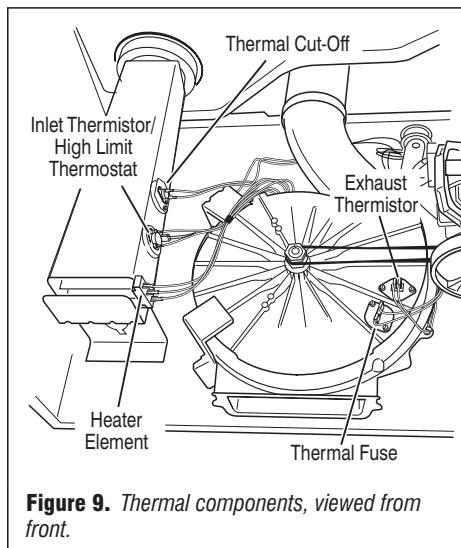

Figure 9. Thermal components, viewed from front.
Locate the components using figure 2, page 4; and figure 9, below.
- Check wire connections at the machine control electronics and thermistor. See Accessing & Removing the Electronic Assemblies, page 9; and for thermistor location, figure 9.
- Check wire connections at the machine control electronics and inlet thermistor. See Accessing & Removing the Electronics Assemblies, page 9, and for inlet thermistor location, see figure 9, page 6.
- Check the resistance of the inlet thermistor. See figure 9, page 6 for location.
2. Access the thermal fuse by first removing the front panel. See Removing the Front Panel/Drum Assembly, page 9; and for thermal fuse location, see figure 9, page 6.
3. Using an ohmmeter, check the continuity across the thermal cut-off. See figure 9, page 6, for location.